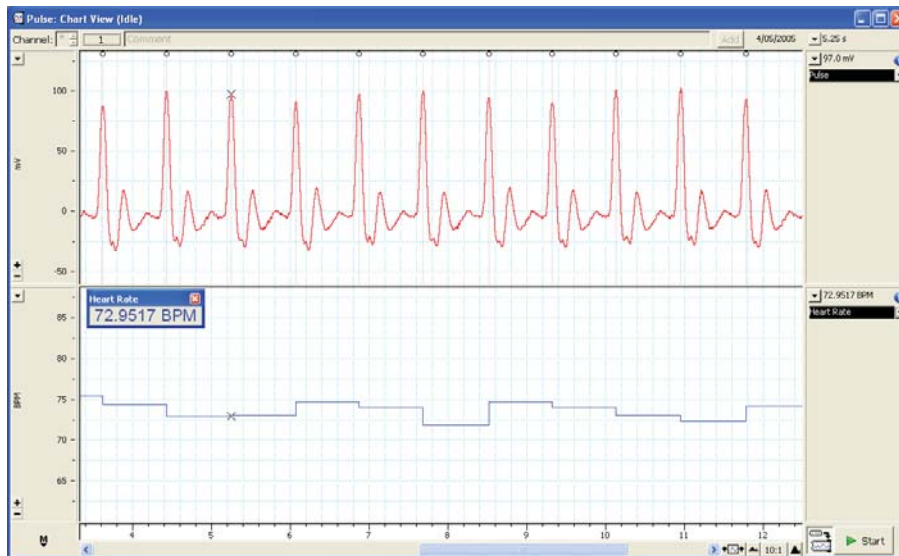

Figure 5: Chart View displaying a recording of the pulse wave and heart rate
12. Press OK and the channel will now display the heart rate calculated from the data collected in Channel 1 (Figure 5).